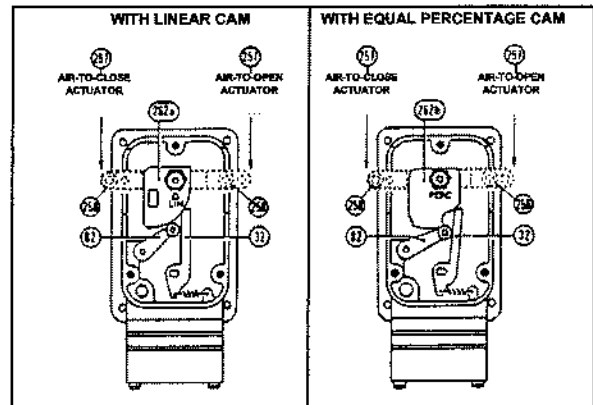

Figure C3 - Position of the came, rear lever and bearing S/A
- Reassemble the cam/lever in the operating position and securely tighten nut (90). Replace the sub-assembly on post (80). Be careful to correctly place the bearing lever (82) in regard to the cam and the lever (32) of spring (figure C3). Replace retaining ring (91).